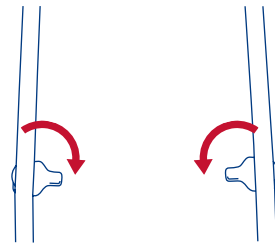

Fig. 18a
18) • Fully recline seat back and turn car seat Support Tabs on the stroller frame (Fig 18a).